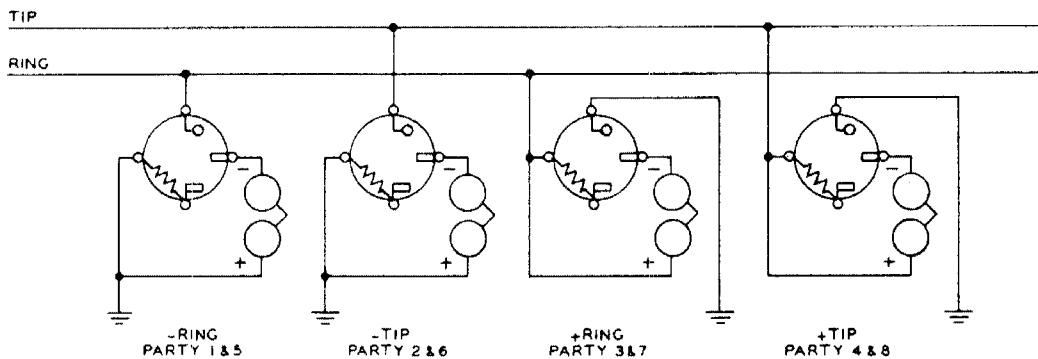

Fig. 4 — Four-Party Full Selective and Eight-Party Semiselective Tube Type Ringing Bridges
4.02 Four-party full selective or 8-party semiselective ringing (Fig. 4) is accomplished by using sets employing a cold cathode electron tube in the ringing circuit.